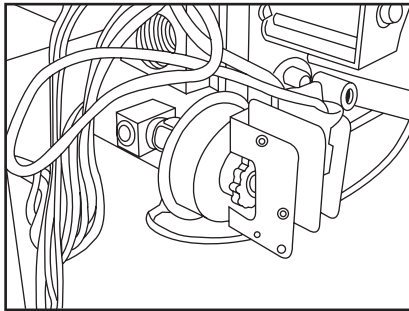

Fig. 7 – LGPS Installed
1. Remove low gas pressure switch (LGPS), street elbow, and 1/8-in. female x female x male brass tee from gas valve inlet pressure tap. (See Fig. 7.)